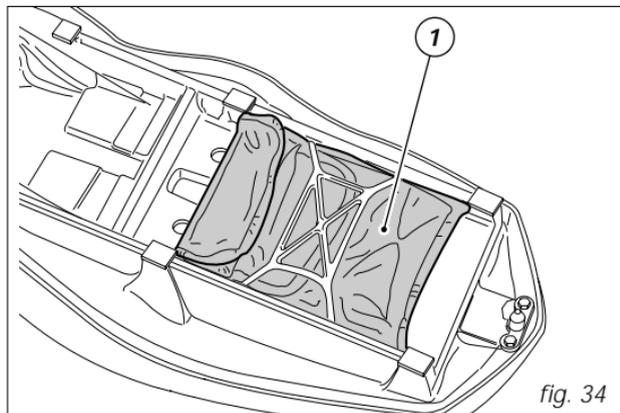

fig. 34
*Tool kit and accessories (fig. 34)*